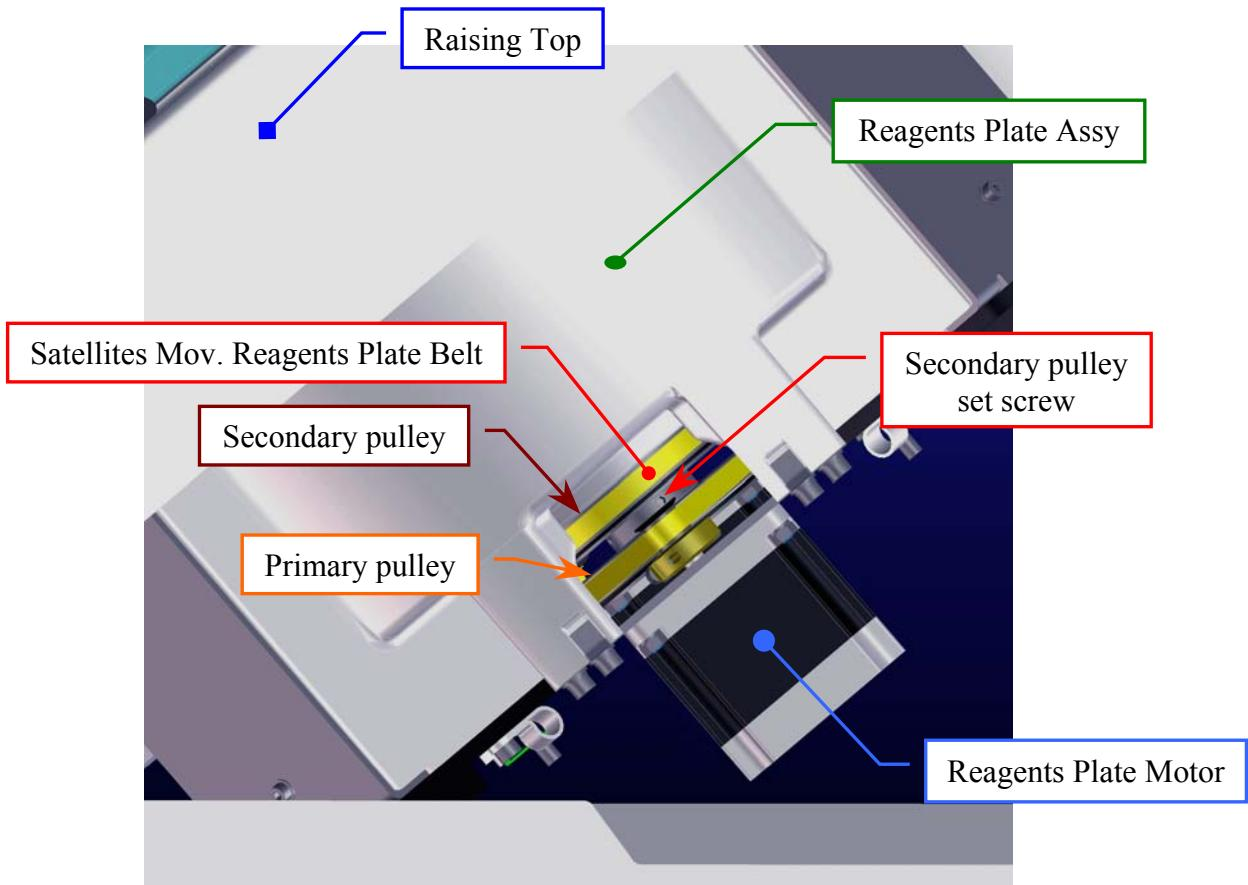

Fig. 76 – Secondary pulley of the Reagents Plate Assy
- g. loosen the two set screws of the secondary pulley of the Reagents Plate (**Fig. 76**);
- i. lever on the primary pulley with a flat head screwdriver in order to obtain that the secondary pulley is locked on the end of the run, and then tighten the two set screws of the secondary pulley of the Reagents Plate (Fig. 76);
7. Loosen much the two set screws of the secondary pulley of the Reagents Plate (**Fig. 76**).